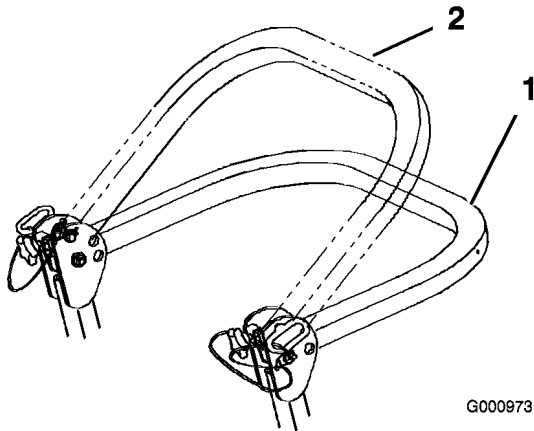

Figure 6
- Lower the the roll bar to the down position. There are two down positions. See Figure 6 for the positions.